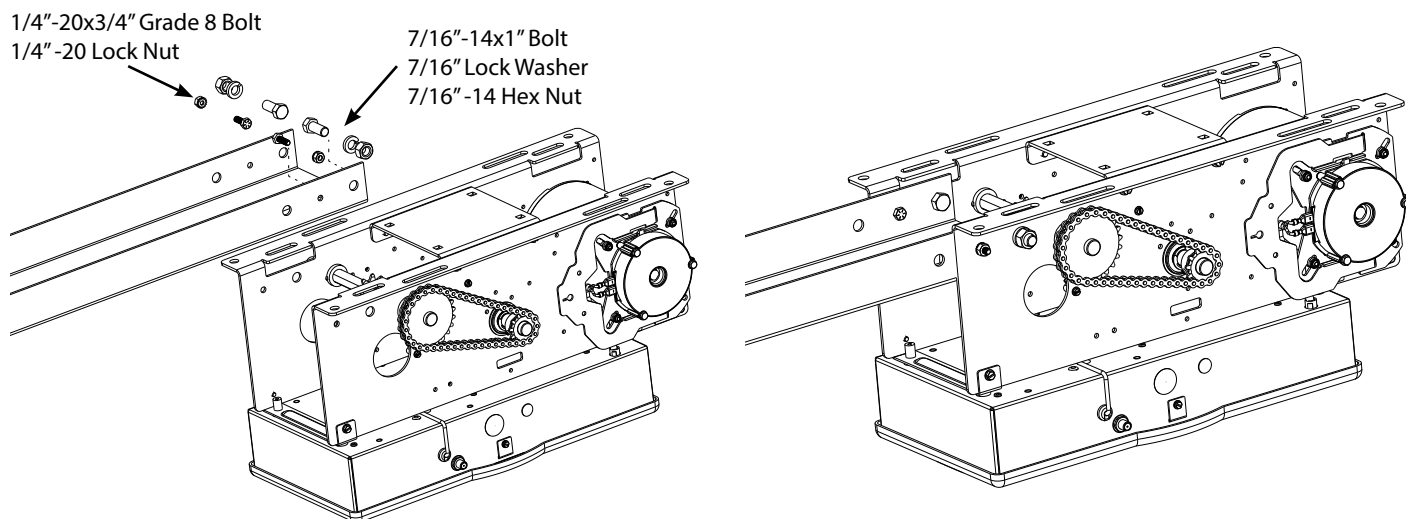

FIG. 1
1. Attach Track to operator using two 7/16"-14 x 1" hex bolts, lock washers & hex nuts & two 1/4"-20 x 3/4" grade 8 bolts and lock nuts. FIG. 1.